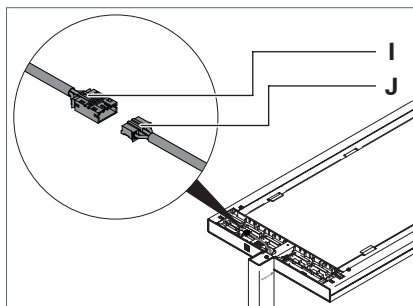

Fig. 4: Connecting the luminaire head, part 1.
- Connect the socket strip **J** to the pin strip **I** in the luminaire head, see Fig. 4.